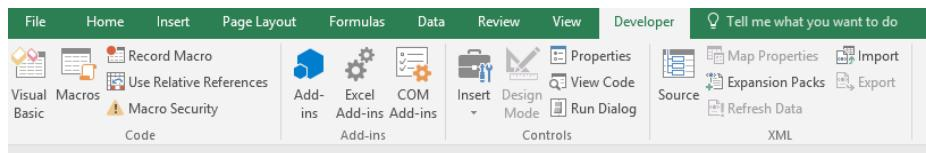

Figure 2.2 Developer tab in Excel
- By clicking the Record Macro button in the *Code* group on the *Developer* tab (see Figure 2.2).